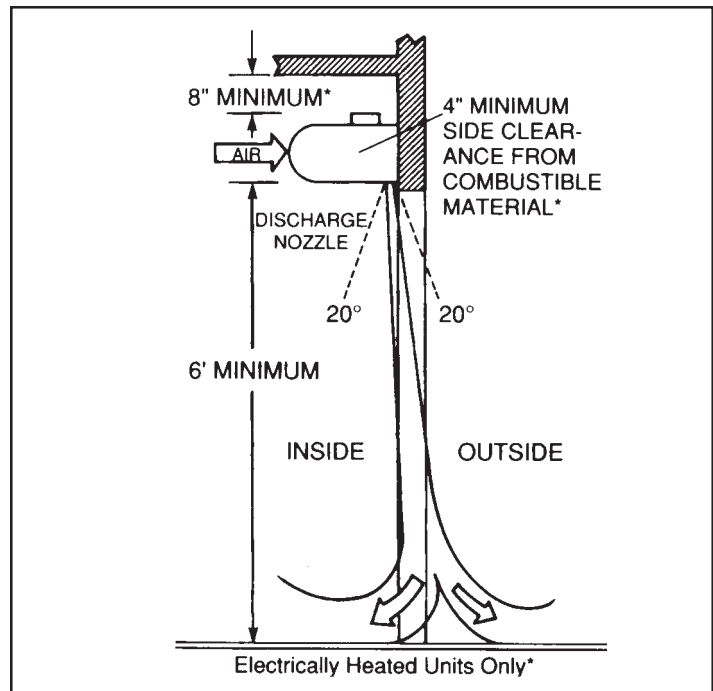

Figure 2
The DIPLOMAT/MARK II air door is designed to be an effective barrier against cold drafts in the winter and hot humid air in the summer. To achieve optimum protection, the unit should be mounted on the inside of the building, flush to the wall (do not obstruct the nozzle or air stream) and as close to the top of the door opening as possible. **See Figure 2.**
1. Install the DIPLOMAT/MARK II Series Air Door so that nothing interferes with the curtain of air when it is deflected 20° to either side. If the air stream strikes any obstruction, i.e. the top edge of the doorway, a structural beam, a door opening device, etc., its efficiency will be greatly reduced. **See Figure 2.**
- C) do not install less than six feet (or 1.8 meters) from the floor to the unit. **See Figure 2.**
1. Install the DIPLOMAT/MARK II Series Air Door so that nothing interferes with the curtain of air when it is deflected 20° to either side. If the air stream strikes any obstruction, i.e. the top edge of the doorway, a structural beam, a door opening device, etc., its efficiency will be greatly reduced. See Figure 2.